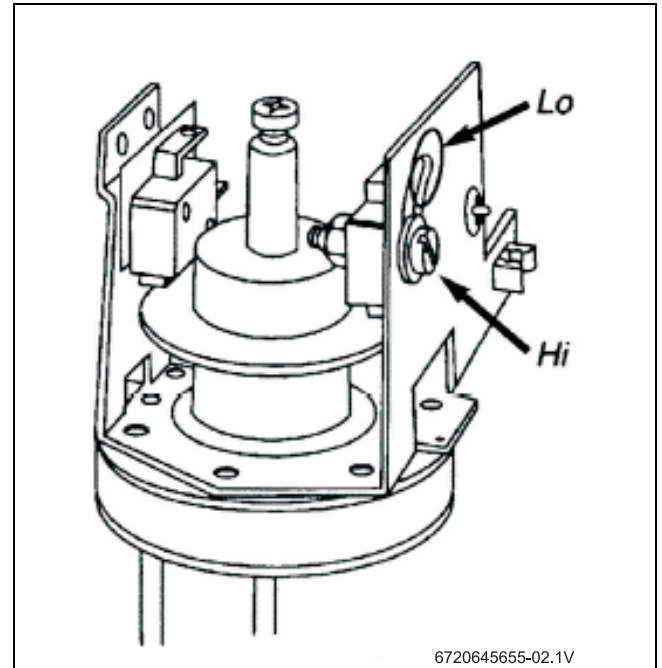

Fig. 5 Power selector screw
- ▶ Set the Power Selector Screw (Fig. 5) on the desired setting. If it is set to LO, only one heating element will operate and the output will be half power. See the Table 4 on page 7 for temperature rise at various flow rates. If the element is set on HI, both heating elements will operate and the output will be full power. When setting the Power Selector Screw, it is important that the screw be adjusted all the way to the end of the slot and that it be well tightened.
The power selector screw not all the way to "HI".	Change the power select screw to "HI", see Fig. 5.